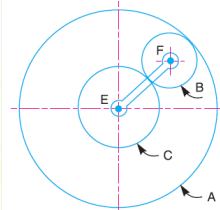

Fig. 13.10
7. An epicyclic gear consists of three gears A, B and C as shown in Fig. 13.10. The gear A has 72 internal teeth and gear C has 32 external teeth. The gear B meshes with both A and C and is carried on an arm EF which rotates about the centre of A at 18 r.p.m.. If the gear A is fixed, determine the speed of gears B and C. (10M)